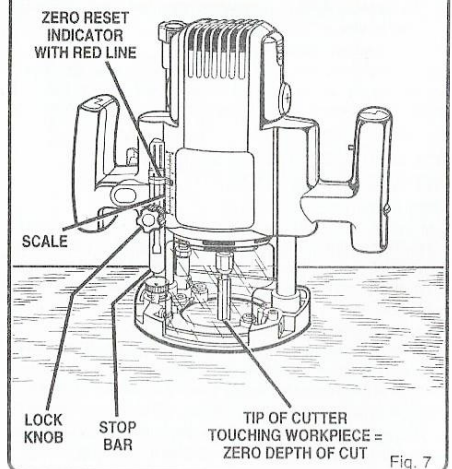

Fig. 7
- Lower router until tip of cutter barely touches flat surface. See Figure 7.
- Next, lift stop bar to obtain desired depth of cut. See Figure 7. For example, if setting 1/8 in. (3.2mm) depth of cut, the zero-reset indicator will move 1/8 in. (3.2mm) from the 1 in. (25.4mm) reference point.